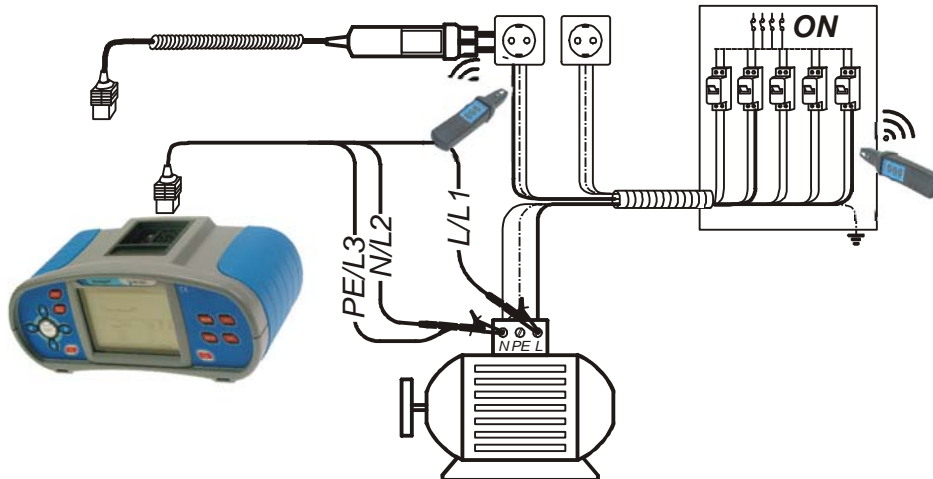

Figure 5.43: Tracing wires under walls and in cabinets
- ❑ **Connect** test leads to the tested object (see figures 5.43 and 5.44).